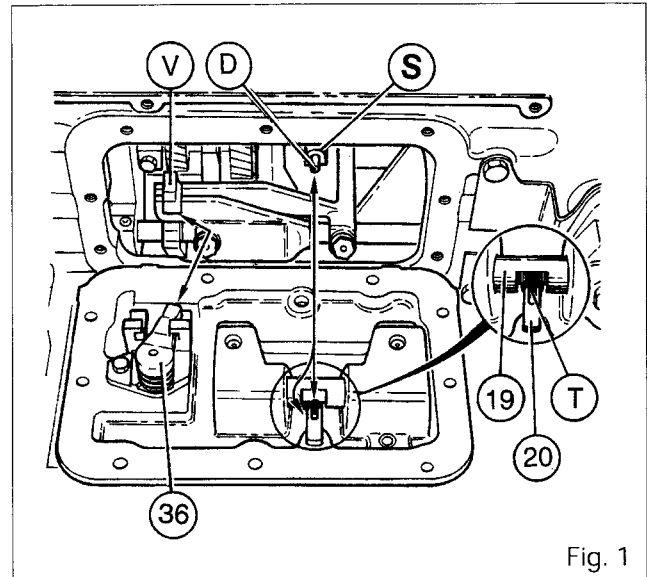
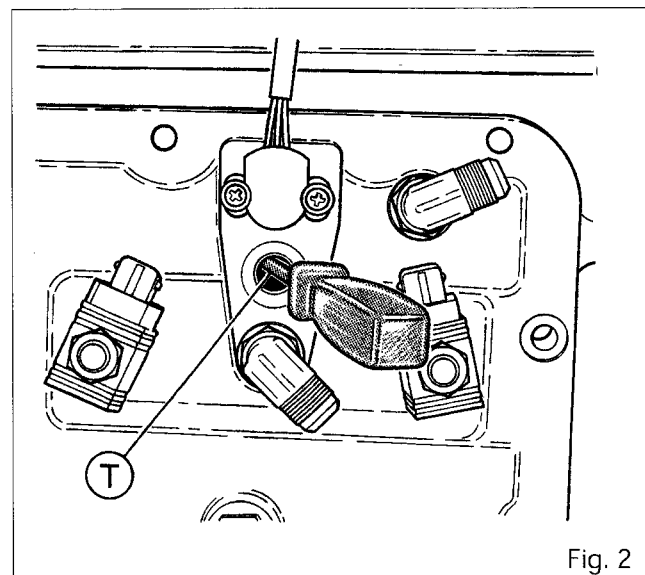

Fig. 1
Fig. 2
**Note:** To avoid immobilising the tractor in the event of any failure of the hydraulic system (low or no pressure) or electrical failure, the reverse shuttle can be engaged via the inspection port «T» (Fig. 2) using a screwdriver placed in the grooves on the piston (19).
8. Set the reversing selector, and the 1st-2nd and 3rd-4th gear forks to the neutral position. Move the lock «V» towards the opening of the selector cover (see Fig. 1).
10. Position the notch on the piston (19) pointing upwards and line it up with the centre of the inspection port «T». Position the finger (36) pointing to the right (Fig. 1).
12. Using a screwdriver, through the inspection port «T» (Fig. 2), position the piston in the selector «S» and align the notch in the link (20) with the finger «D» on the selector (Fig. 1). Fit the cover on the gearbox.
13. Fit the earth wire lug (24) and the creeper gearshift control support bracket (if fitted). Tighten the bolts (33) and nut (57) to a torque of 50 to 70 Nm.
4. Remove the bolt (1), withdraw the rod (2) to disengage the finger from the fork (Fig. 1).
5. Unscrew the nut (26) and the locking screw (27) on the fork (28).
6. Remove the setscrew (8).
7. Turn the selector rail (7) and drive out the dowel (29) (Figures 2 and 3).